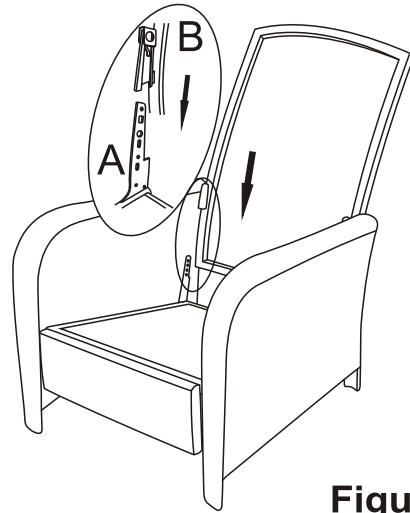

Figure 1
Step 1. Place chair back (B) at a slight angle to align the locking brackets on the chair back (B) with the locking brackets on the chair body (A). See inset on figure 1.
(Figure 1)